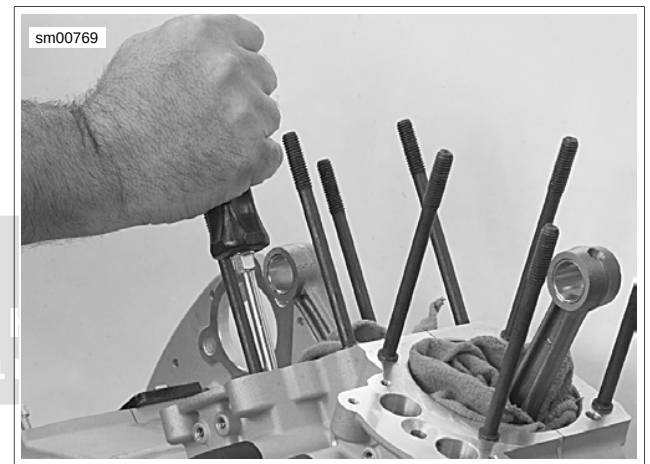

Figure 3-115. Checking Cam Gear End Play
6. See Figure 3-115. Check cam gear end play for each cam gear as follows: